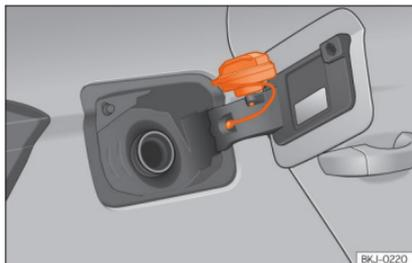

Fig. 261 Fuel tank flap with tank cap attached.
- Place it in the space on the hinge of the open flap »» Fig. 261.